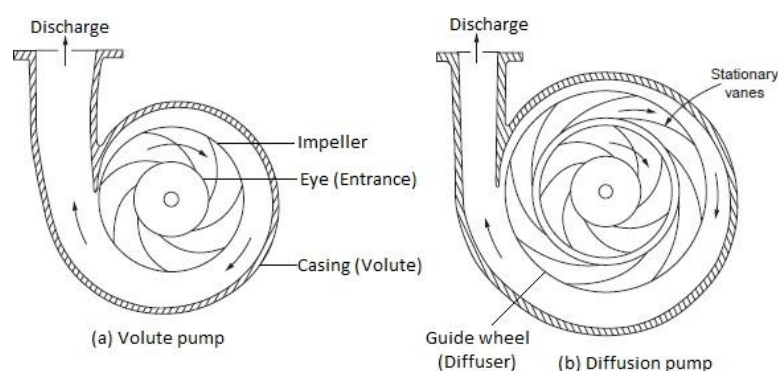

Fig. 6.1 Classification based on pump casings
Figure 6.1(a) shows the working principal of a centrifugal pump. The liquid to be pumped enters the centre of the impeller which is known as eye of the pump and discharge into the space around the casing and hence filling the space. Due to the rotation of the impeller inside the pump casing a forced vortex is set up which imparts pressure head to the liquid purely by centrifugal action.
**1. Volute Pump:** A volute pump is used to discharge water at a high velocity. The pump consists of a volute casing of spiral form with gradually increasing cross sectional area towards the discharge end. Mean velocity of flowing fluid remains constant as cross sectional area at any point is proportional to amount of water flowing through that section. Loss of kinetic head due to eddy formation is avoided due to the spiral shape. A volute pump is shown in figure 6.1(a).
**2. Diffusion Pump or Turbine Pump:** The diffusion pump consists of an impeller surrounded by guide wheel fitted with stationary vanes or diffusers as shown in figure 6.1(b). The cross sectional area of these vanes increases gradually so that pressure of the fluid increases by decreasing velocity as fluid passes over the vanes. The guide vanes are so designed that the angle made at the entrance should perfectly match with the direction of absolute velocity at the outlet of the impeller.